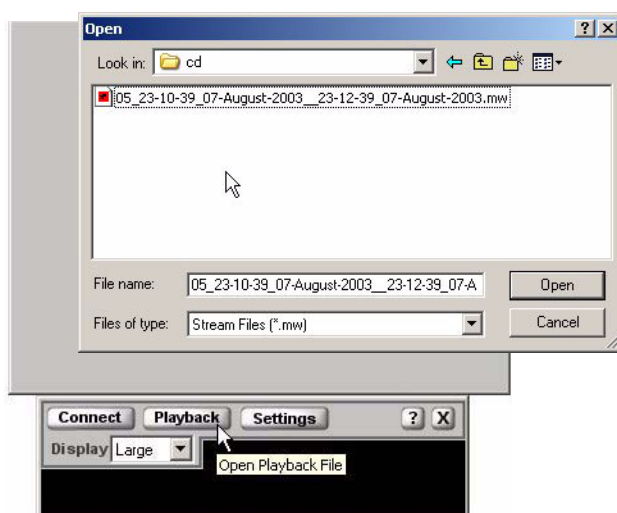

Figure 10-19: sPlayer Start Up
2. Double click on the **sPlayerEXT** icon to start the application as shown in Figure 10-19.